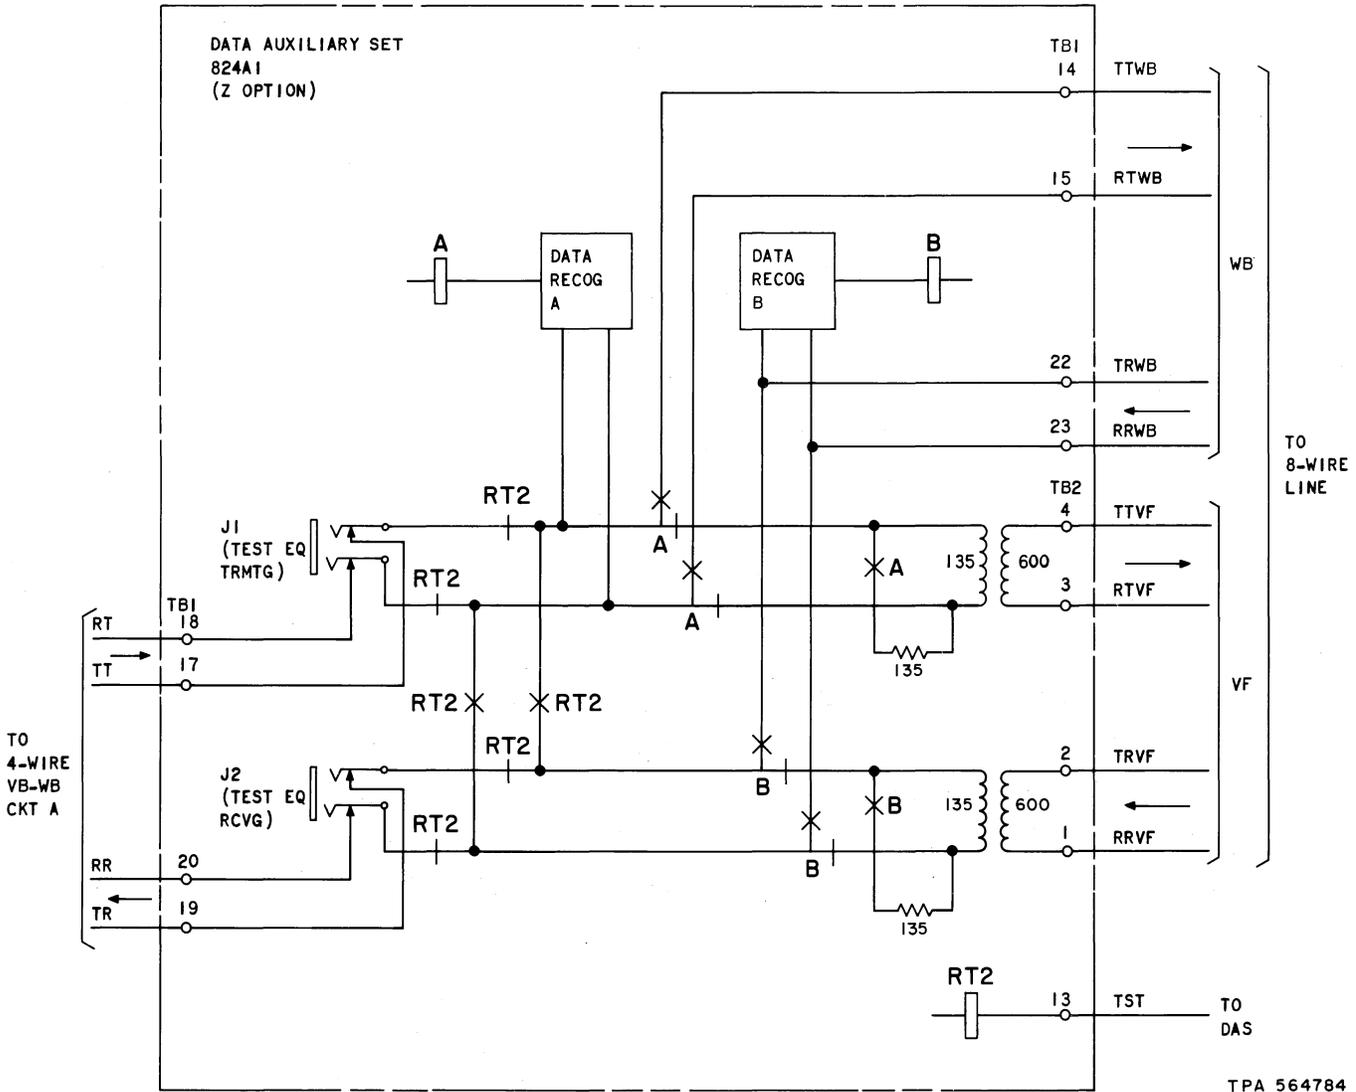

Fig. 5—Four-Wire Voice Frequency—Wideband Circuit to Eight-Wire Line (Option Z)
- (1) ***Four-Wire Voice Frequency—Wideband Circuit to Eight-Wire Line (Option Z):*** Provides a means for full-duplex switching of a customer's 4-wire voice-frequency or wideband line to either a 4-wire wideband Bell System line or a 4-wire voice-frequency Bell System line. Refer to Fig. 5. When no data is present, the switching is such that the connection is to the voice-frequency line. The connection is switched to the wideband line when data is present.
- (2) ***Four-Wire Voice Frequency—Wideband Circuit to Eight-Wire Line With 50-kbps***